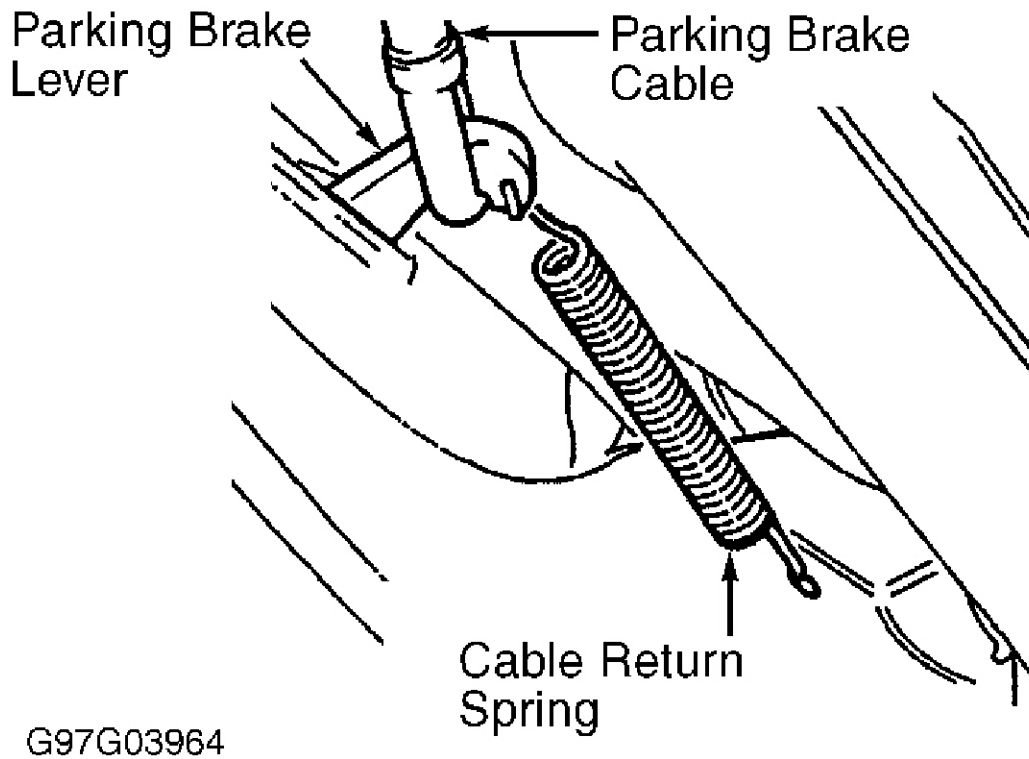
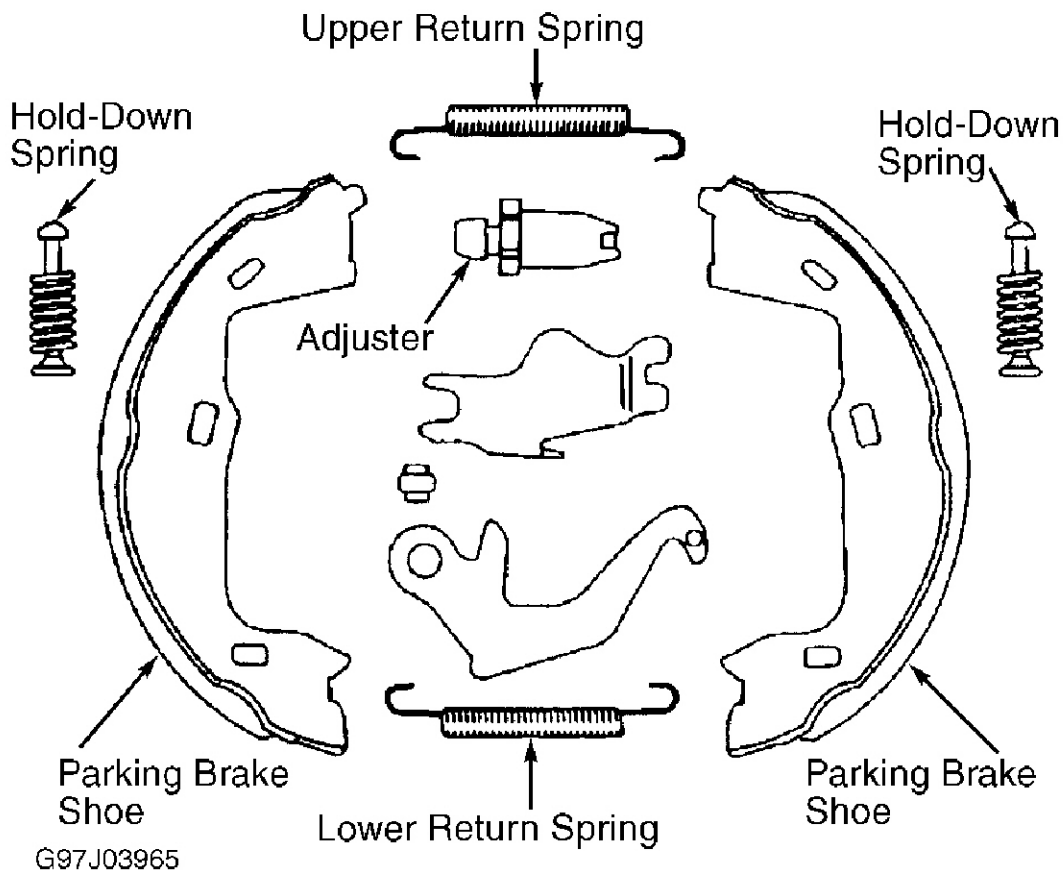

Fig. 1: Locating Parking Brake Cable
Fig. 2: Identifying Parking Brake Components
2. Remove parking brake cable return spring from rear parking brake lever and backing plate. See **Fig. 1** . Remove parking brake cable from rear parking brake lever. Using brake spring pliers, remove parking brake shoe upper return spring from parking brake shoe. See **Fig. 2** . Remove parking brake adjuster. Using brake spring pliers, remove parking brake shoe lower return spring from parking brake shoe.